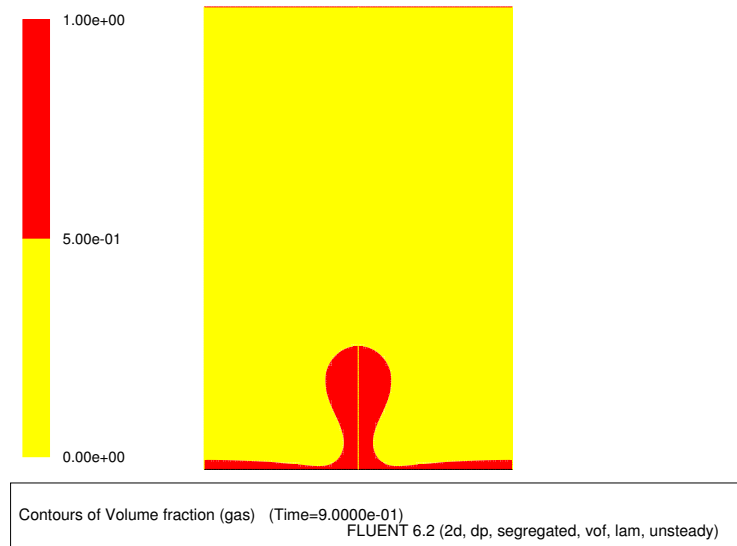

Figure 5: Contours of Gas Volume Fraction at $t = 0.9\text{s}$
1. Display filled contours of volume fraction of gas after 900 time steps ($t = 0.9s$). See Figure 5.
The contour display in Figure 5 shows a mirrored view across the symmetry boundary. To obtain such a view, separate the single symmetry zone into two symmetry zones and use one of these zones to mirror the display.